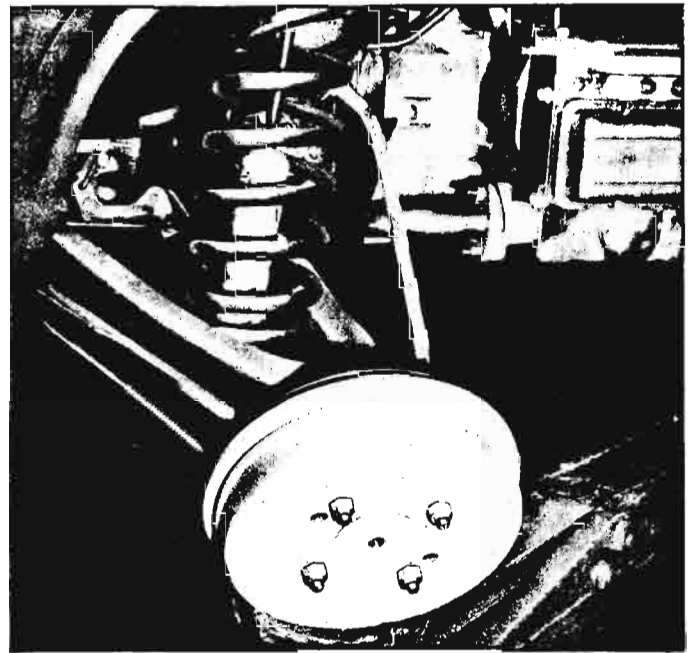

Fig. 3-26—Installing Shock Absorber and Coil Spring
- Extend shock absorber shaft. Place up through control arm and spring and attach bottom of shock absorber to control arm with two lockwashers and bolts (fig. 3-26). Installing the shock absorber at this time will give safer working conditions in case jack was not securely placed.